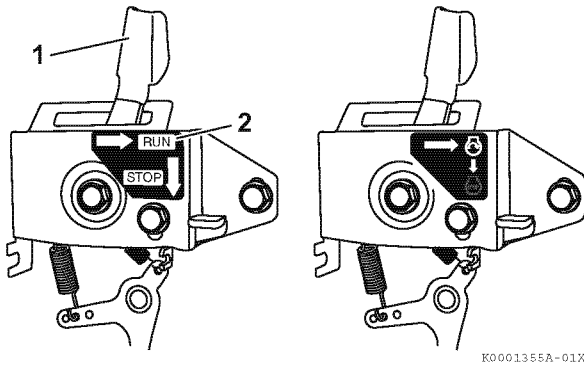

Figure 13
- If your engine speed control is similar to **Figure 13** slide the engine speed control lever (1, **Figure 13**) to the RUN position or (2, **Figure 13**).